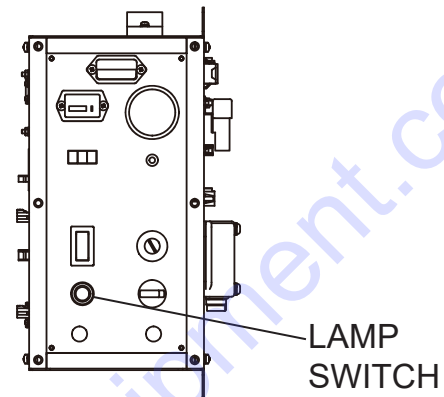

Figure 16. Turning on the Lamp
1. Press the lamp switch on the control panel to turn on the lamp (Figure 16).